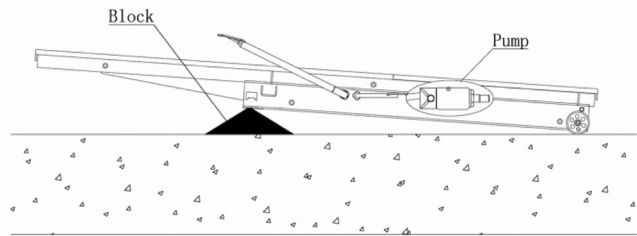

FIGURE 2
2. Lower the lift completely with the block underneath the lift. By placing the block under the frame, the pump should now be in a horizontal position as shown in Figure 2.
4. The oil level should be even with the top surface of the cylinder (at horizontal position) right below the filler plug hole. (Figure 2)